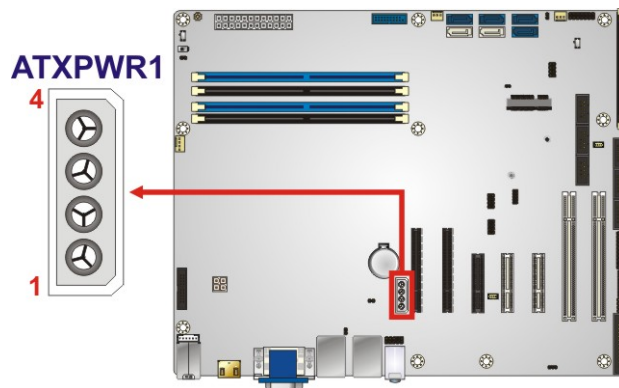

Figure 3-3: Additional Power Connector Location
- CN Location:** See **Figure 3-3**